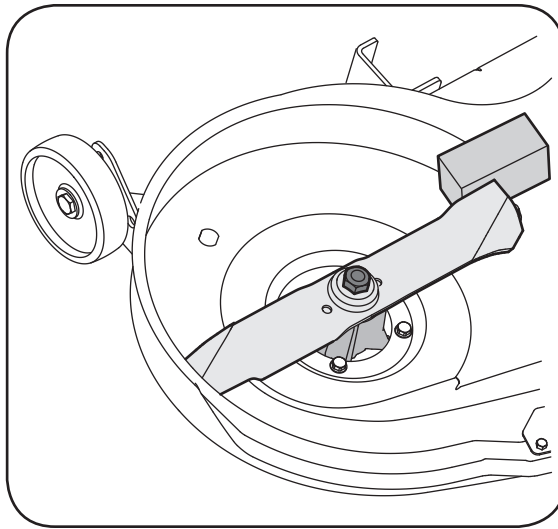

Figure 6-5
2. Place a block of wood between the center deck housing baffle and the cutting blade to act as a stabilizer. See Figure 6-5.
3. Use a 15/16" wrench to remove the hex flange nut that secures the blade to the spindle assembly. See Figure 6-5.